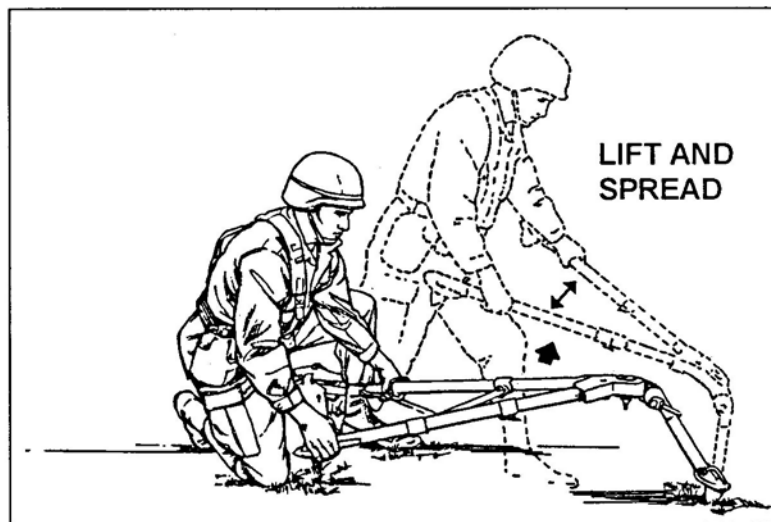

Figure 1. Opening M3 Tripod Into Position
- b. Open and lock the rear legs of the tripod in the open position (Figure 1).